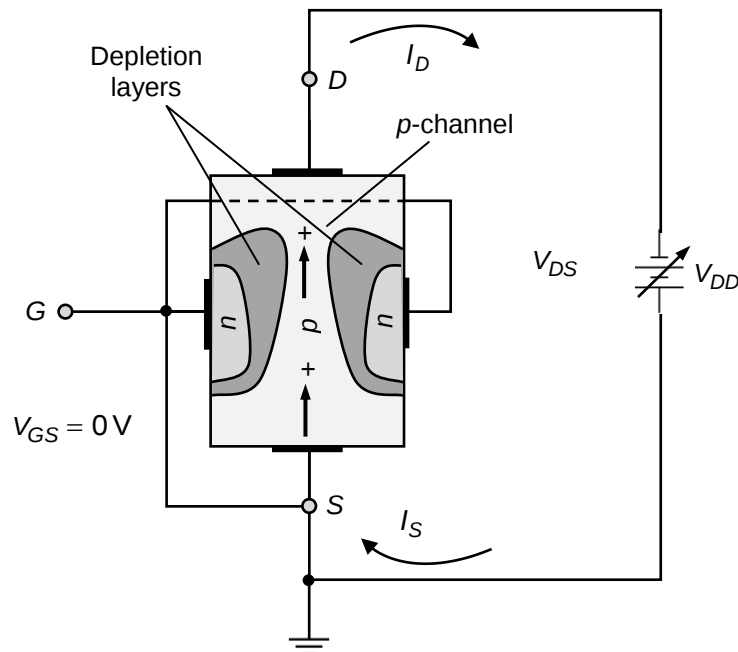

Fig. 3.19: Circuit diagram for p -channel JFET when $V_{GS} = 0$ V.
- 4. a) The circuit diagram analogous to Fig. 3.9 for the p -channel JFET when $V_{GS} = 0\text{ V}$ is shown in Fig. 3.19.